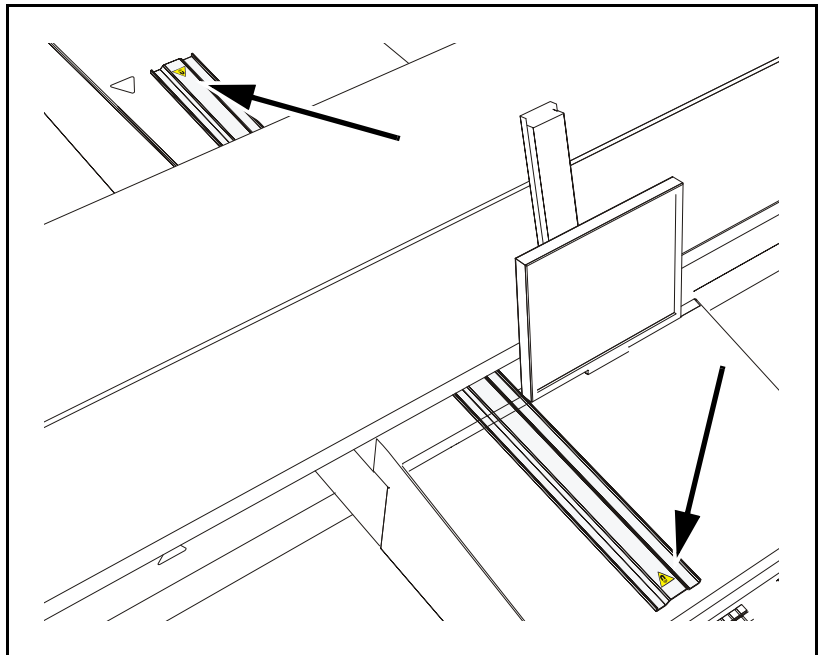

Figure 1-2. Signs warning for magnetic fields.
- Two signs on the conveyor component shield (see Figure 1-2).